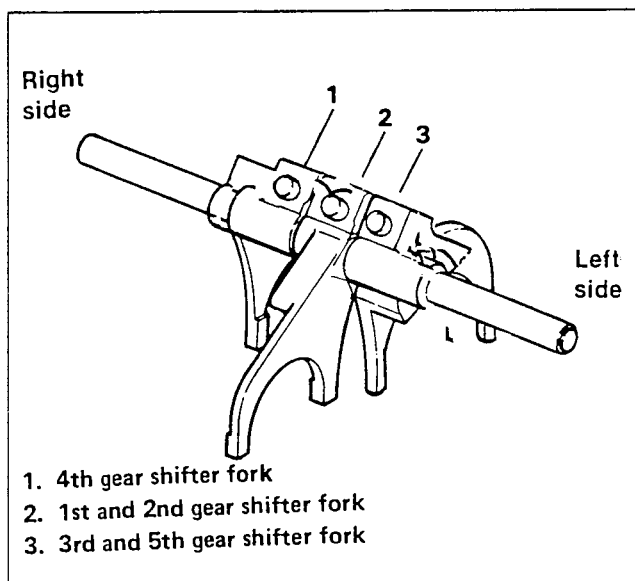

Figure 4. Shifter Fork Identification
1. See Figure 4. The forks differ from each other and are shown here.